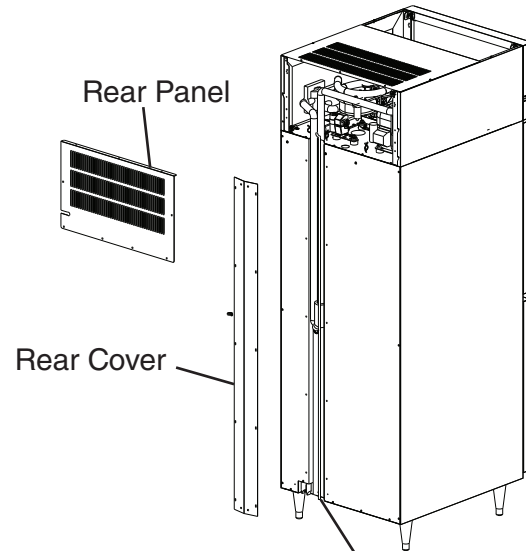

Fig. 3 Suction Hose
- 2) Uncoil the suction hose and route to the bottom of the unit. See Fig. 3.